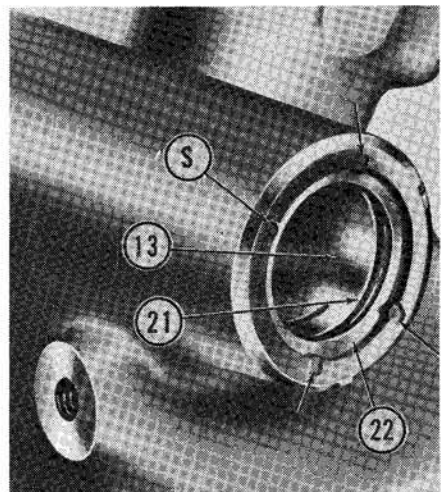

Fig. 7—Seal retainer (22) (not used on late models) is retained in gear housing by staking (S) as shown. Oil seal (21) can be renewed without removing retainer.
Inspect rocker shaft journals and bushings. If necessary to renew bushings on early models, refer to Fig. 7 and carefully remove the staking and seal retainer (22). On all models,